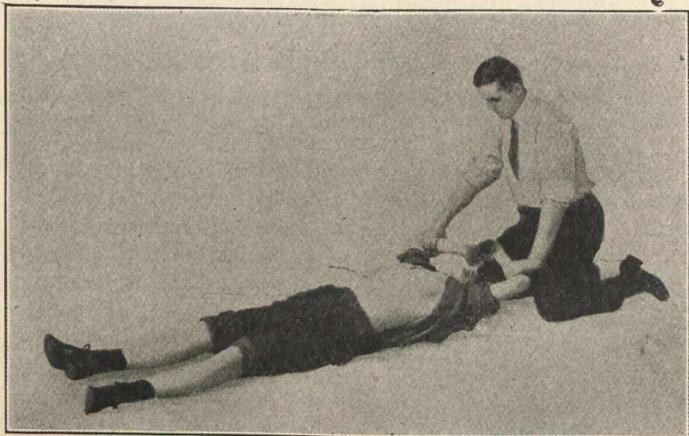
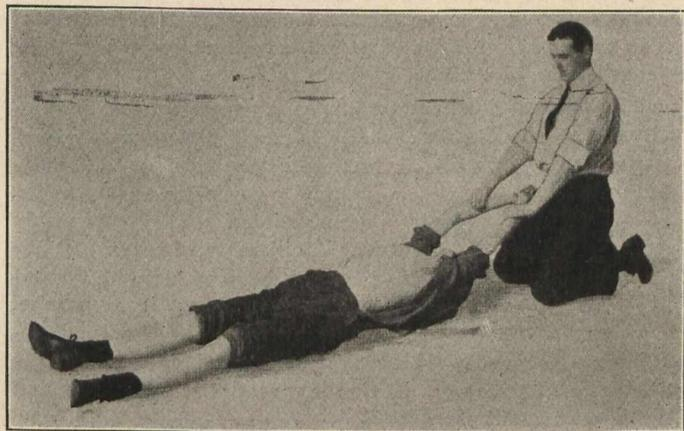

Fig. 7.—Second Movement in Artificial Respiration.
Fig. 8.—Third Movement in Artificial Respiration.
2. Raise the arms slowly with a sweeping motion until the patient's hands meet above (or behind) the patient's head, as shown in Fig. 7; then
3. While you have the patient's arms stretched out in line with his body, give them a slow, strong pull, until you have expanded or raised his chest as high as it will go, as shown in Fig. 8; then
This action should be continued about fifteen times a minute until the patient begins to breathe. You must guard against a tendency to make these motions too fast; they must be done slowly. A good plan is to count four slowly—"one," as the pressure is given on the sides, as shown in Fig. 6; "two," as the arms are being extended above the head, as shown in Fig. 7; "three," as the strong pull is given, as shown in Fig. 8, and "four," when the arms are again being bent and returned to the sides, as shown in Fig. 9.